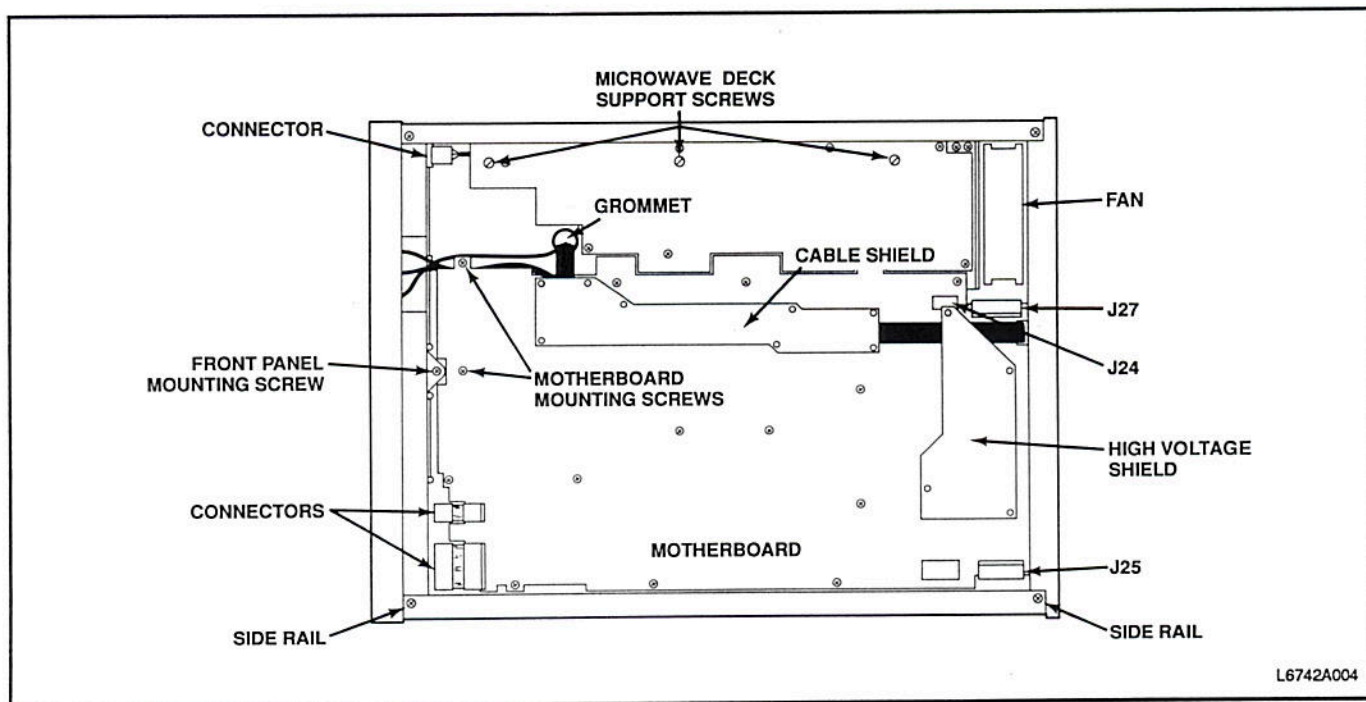

Figure 7-4. Bottom View
4. Remove the cable shield from its mounting pins (Figure 7-4).
Before sliding the front panel away from the chassis, check to ensure that the support screws are tight, and that the deck is secure (Figure 7-4).
3. Unplug the cables from J25, J27, and the A28J24 fan cable (Figure 7-4).
- Remove the cable from J26 (on the top of the motherboard – not visible in Figure 7-4).
- Remove the screws that secure the upper side rail to the front and rear panels (Figure 7-4).